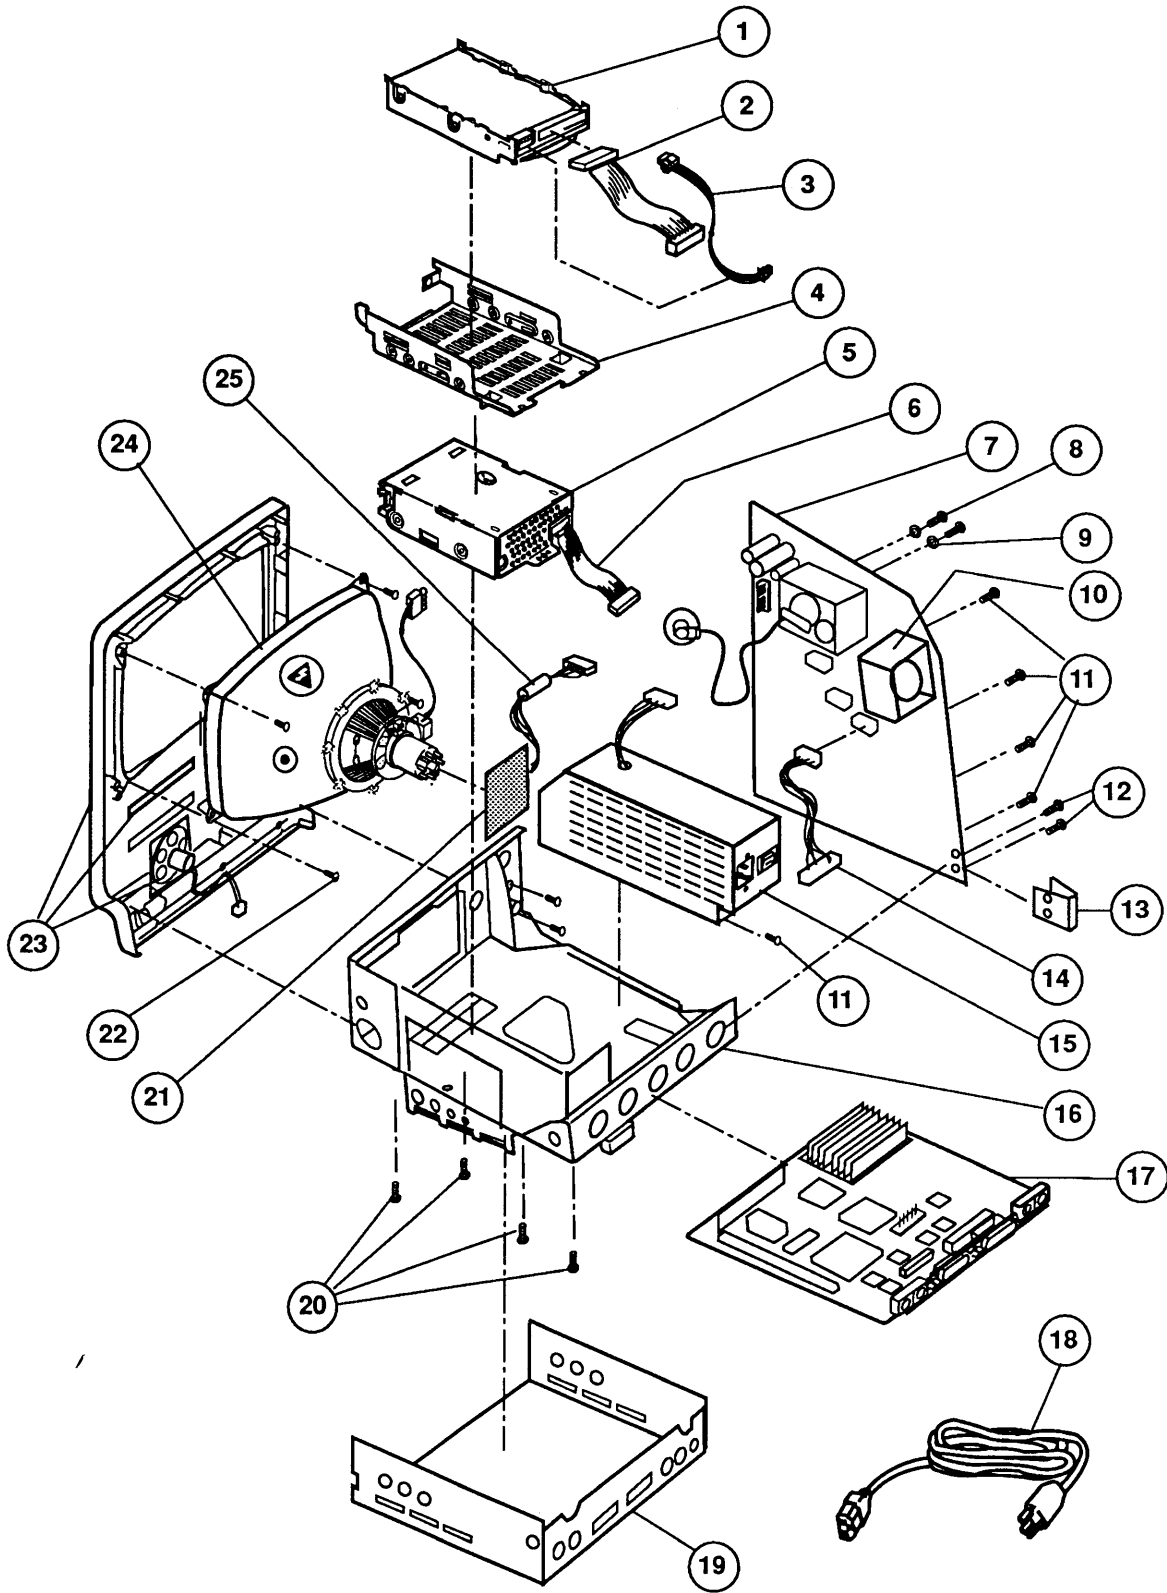

FIGURE 1
- IPL.3 Internal View (Figure 1)
□ INTERNAL VIEW (Figure 1)